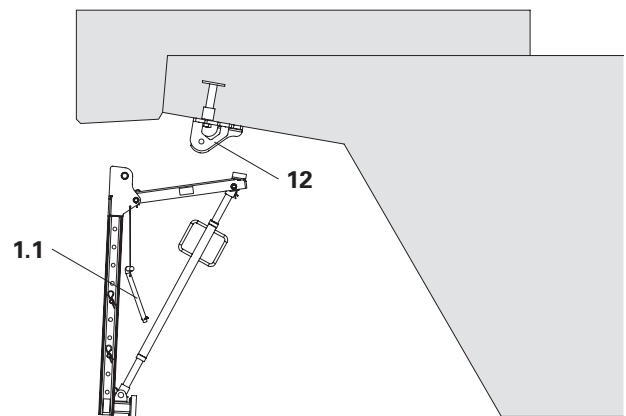
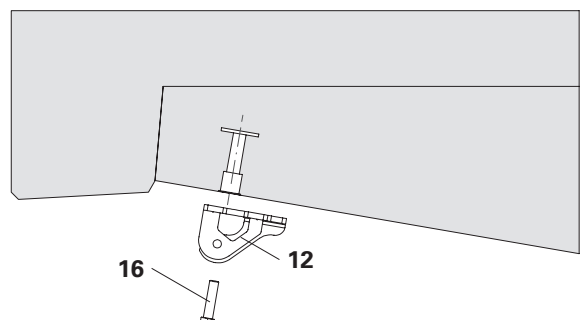

Fig. C3.03
Fig. C3.04
1. Remove locking pins $\varnothing 20 \times 260$ (1.1) from Suspension Head VGK (12) and remove bracket unit. (Fig. C3.03)
3. Remove bolt ISO M24 x 100-8.8 (16) and remove Suspension Head VGK (12).
4. Close tie holes, e.g. with Plug FRC, see Section "A5 Anchoring" on page 36. (Fig. C3.04)